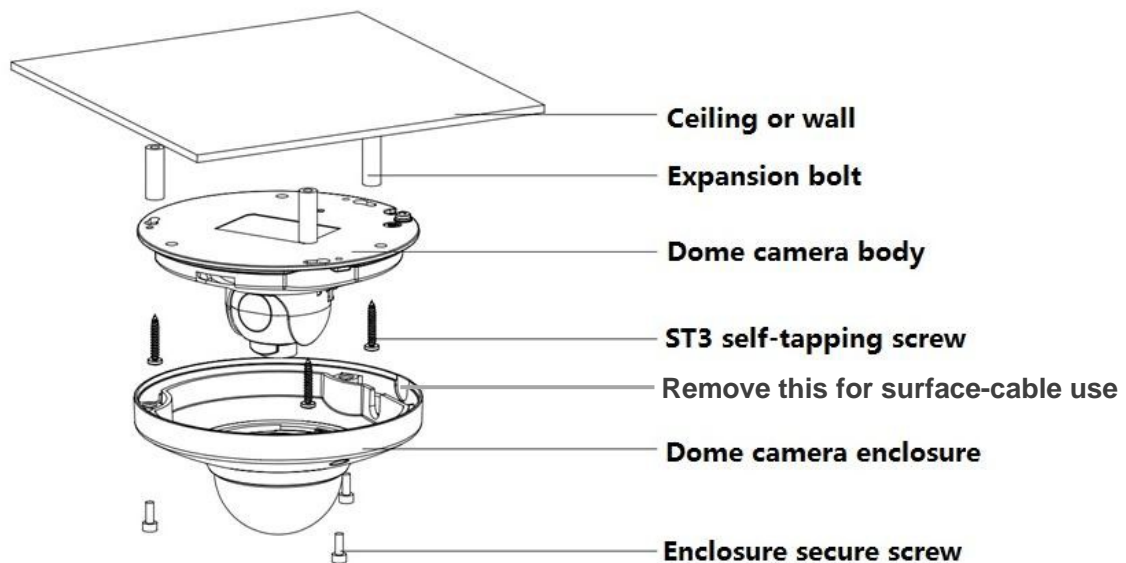

Figure 2-1 Device installation illustration 1
- If the cable must exit the camera on the surface of the wall or ceiling, use a strong needle-nose plier or similar tool to pry out and remove the thin metal of the camera's outer shell, as shown in Figure 2-1 above; "Remove this for surface-cable use".